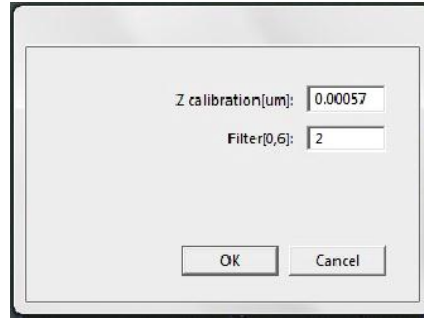

Fig. 41. Calibration window
9. A calibration window pops up as shown in Fig. 41. The *Z calibration* field allows you to enter a scale factor to convert the image information to height. Typically this value would be obtained